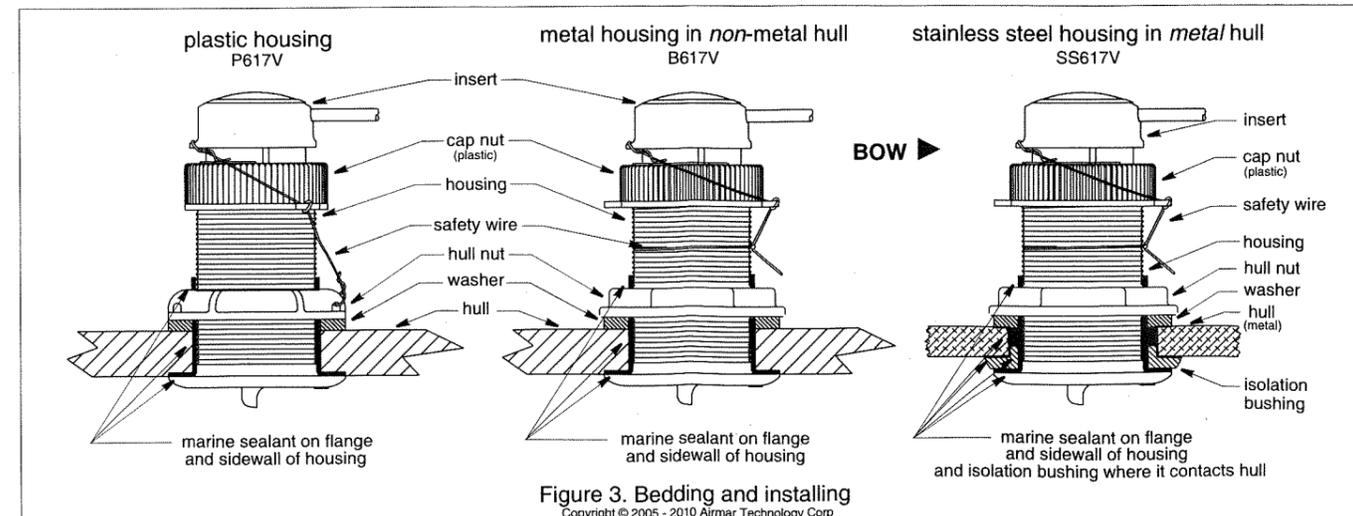

Figure 3. Bedding and installing
Apply a 2mm (1/16") thick layer of marine sealant around the flange of the housing that contacts the hull and up the sidewall of the housing (Figure 3). *The sealant must extend 6mm (1/4") higher than the combined thickness of the hull, the washer, and the hull nut.* This will ensure there is sealant in the threads to seal the hull and to hold the hull nut securely in place.
1. From outside the hull, push the housing into the mounting hole using a twisting motion to squeeze out excess sealant (Figure 3).